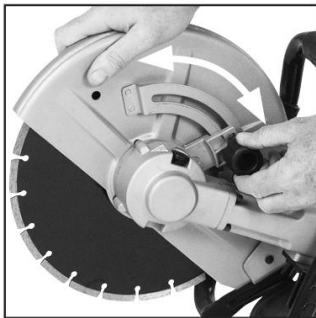

FIG. 6
- Loosen the wheel gard locking knob and rotate the guard to the required position. (FIG.6)